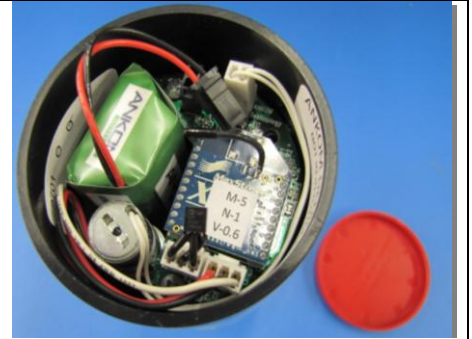

Figure 13
13. Reassembled module should appear as shown in Figure 13. Module is now ready to be tested per Service Procedure 171 (SP-171) which can be found at: <http://www.ankom.com/service-procedures-rf.aspx>.